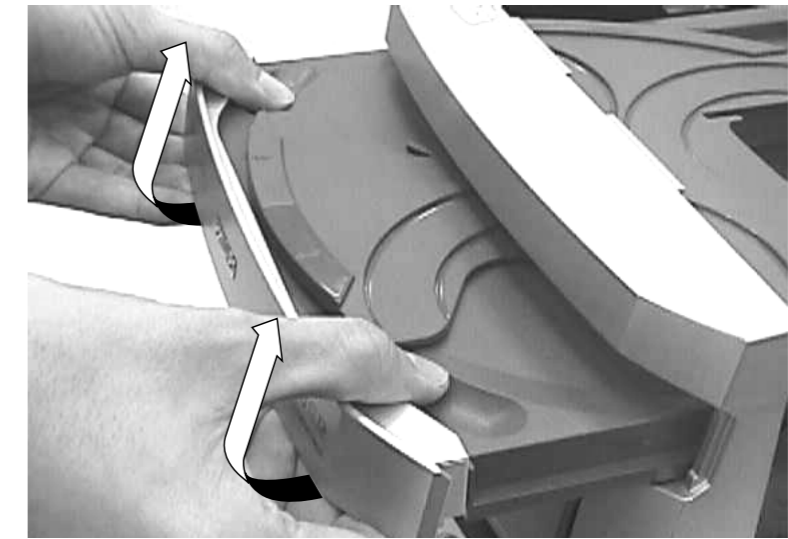

Figure 4
- 4) Remove the Cover Tray (pos 29) as shown in figure 4.